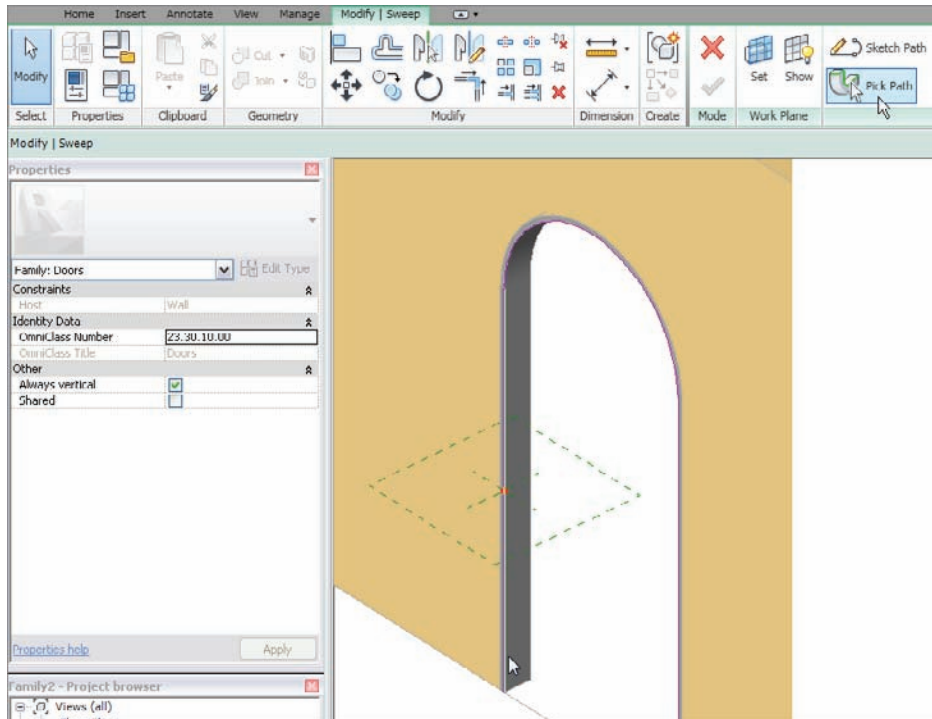

FIGURE 17.22 Picking the path for the sweep
1. Go to a 3D view (if you aren't there already), and position the view so it looks like Figure 17.22.
4. Pick the inside corner of the jamb starting with the left side (see Figure 17.22).